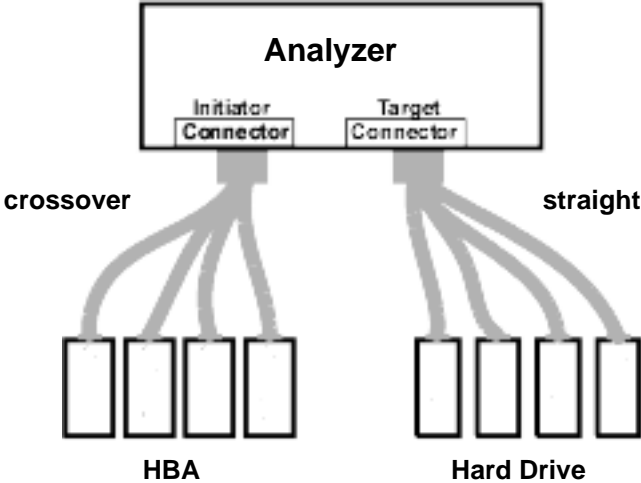

Figure 4 Analyzer Connections
3. Connect the analyzer as shown in Figure 4: